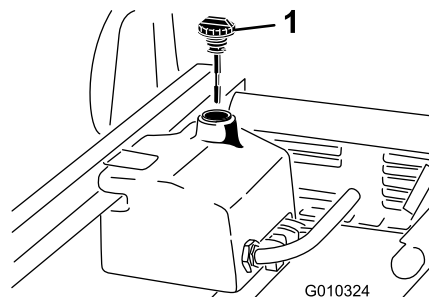

Figure 21
1. Clean the area around the filler neck and the cap of the hydraulic tank (Figure 21).
3. Remove the dipstick (Figure 21) from the filler neck and wipe it with a clean rag.